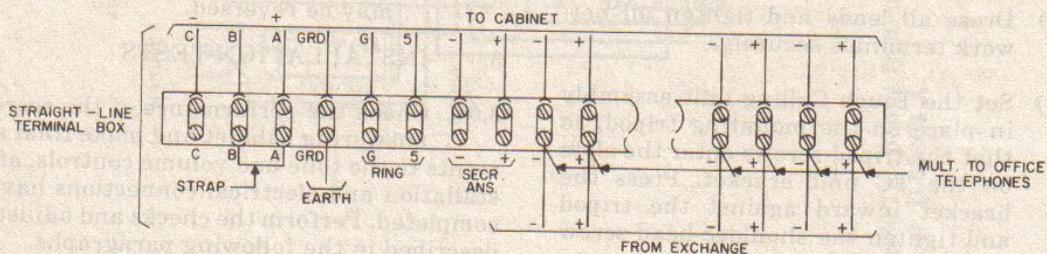

Figure 12. Connections to Straight Line Terminal Box.
2.17 As shown in Figure 12, the exchange + and - leads in multiple with the station telephone + and - leads are terminated on one side of the terminal strips in the terminal box.